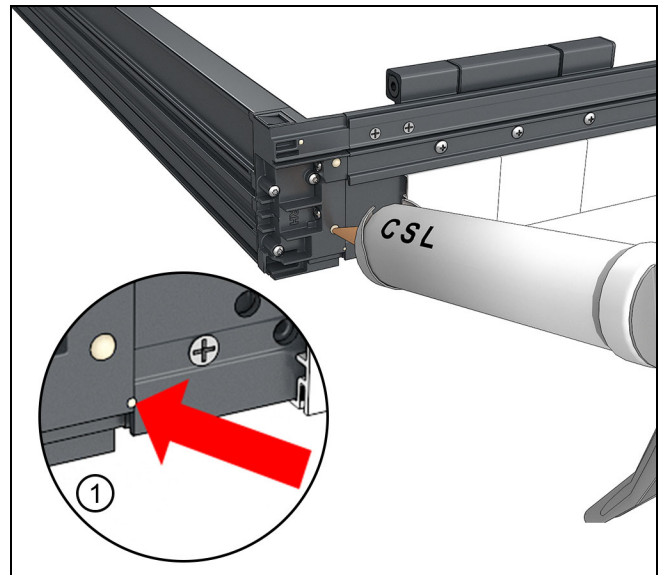

Figure 22 CSL 343 Sealant
9. At the sill corner key, inject the provided sealant into the larger interior hole in the sill corner key until sealant comes out of the interior notch in the sill corner key. See Figure 22.